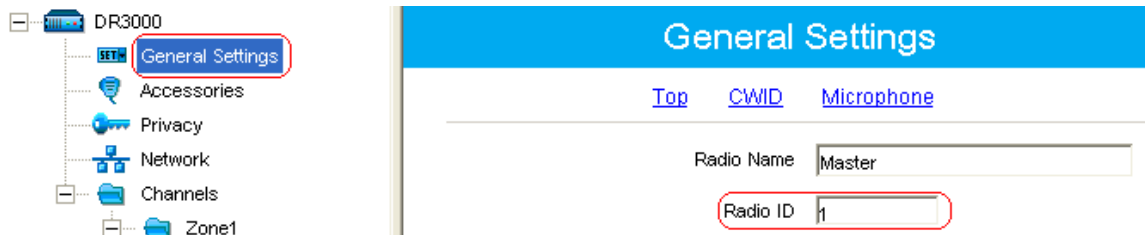

Figure 6.2
- 1) Read the Master repeater using the CPS, navigate to the General Settings screen and enter a Radio ID. Each repeater in the system must contain a unique Radio ID, however since repeaters use Radio IDs differently to radios, then repeaters do NOT need to avoid using the same values already assigned to radios. For the example in Figure 6.2 below, the Master repeater uses a Radio ID of 1.